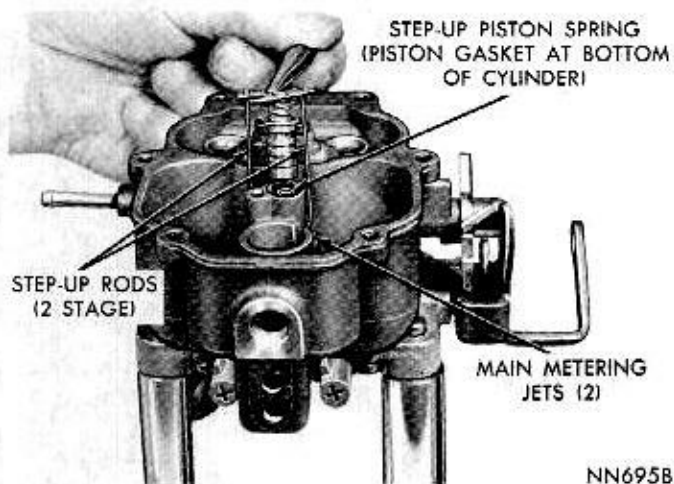

Fig. 5—Removing or Installing Step-up Piston
(9) Remove fuel inlet needle valve, seat and gasket from main body.
(10) Lift out float fulcrum pin retainer, then lift out floats and fulcrum pin.
(11) Remove step-up piston retaining screw, and slide step-up piston and rods out of well, (Fig. 5). Now, lift out step-up piston spring. Remove step-up piston gasket from the bottom of well.
(7) Slide step-up piston gasket down into position in piston well, then install step-up piston spring and step-up piston and rods. Carefully guide step-up rods into main metering jets. (Fig. 5). Install retaining screw and tighten securely.